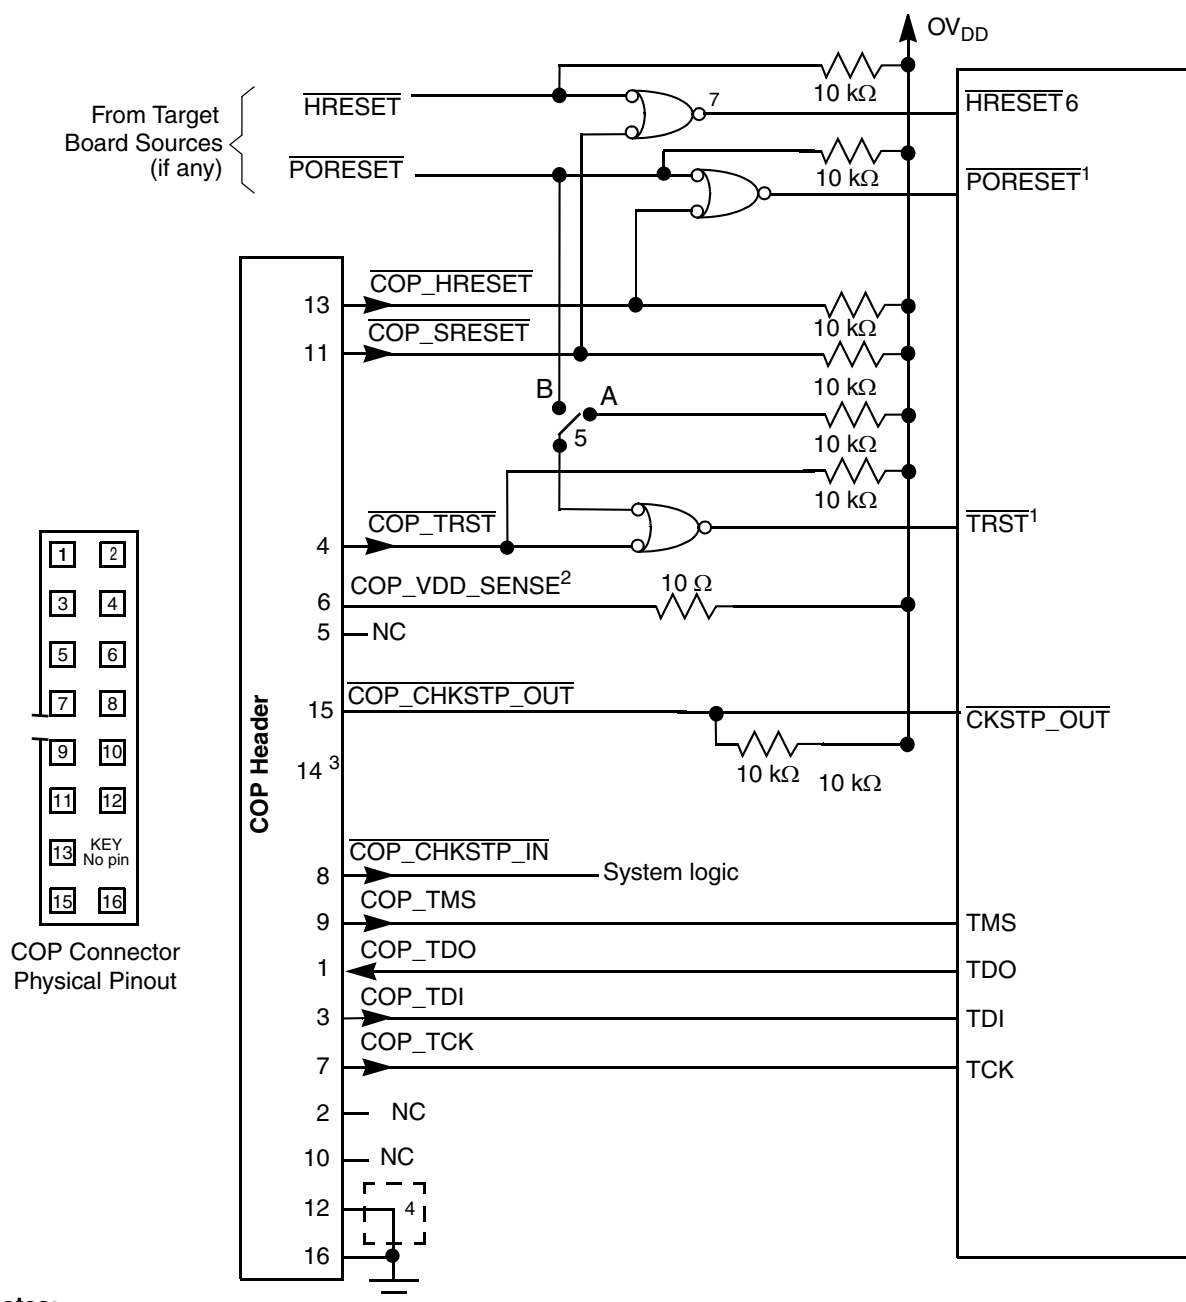

Figure 55. Legacy JTAG Interface Connection
Correct operation of the JTAG interface requires configuration of a group of system control pins as demonstrated in Figure 55. Care must be taken to ensure that these pins are maintained at a valid negated state under normal operating conditions as most have asynchronous behavior and spurious assertion will give unpredictable results.
The arrangement shown in Figure 55 allows the COP port to independently assert $\overline{\text{PORESET}}$ or $\overline{\text{TRST}}$, while ensuring that the target can drive $\overline{\text{PORESET}}$ as well.
- $\overline{\text{TRST}}$ must be tied to $\overline{\text{PORESET}}$ through a 0 k Ω isolation resistor so that it is asserted when the system reset signal ($\overline{\text{PORESET}}$) is asserted, ensuring that the JTAG scan chain is initialized during the power-on reset flow. Freescale recommends that the COP header be designed into the system as shown in Figure 55. If this is not possible, the